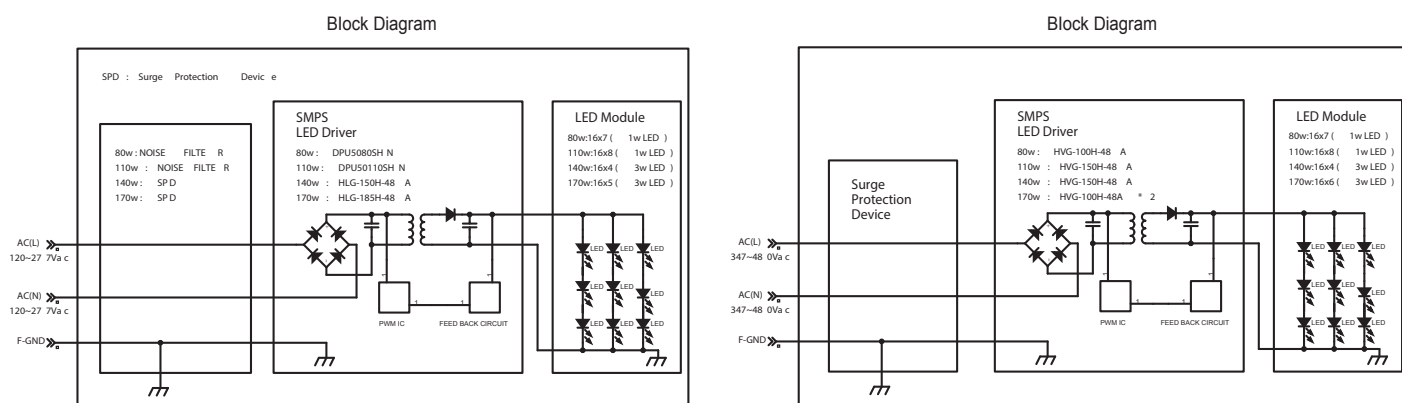

Figure 7
- Connect supply wires to luminaire wire leads per the attached wiring diagrams using methods that comply with all applicable codes. See Figure 7. Tighten all electrical connections.
- Connect supply wires to luminaire wire leads per the attached wiring diagrams using methods that comply with all applicable codes. See Figure 7 Tighten all electrical connections.